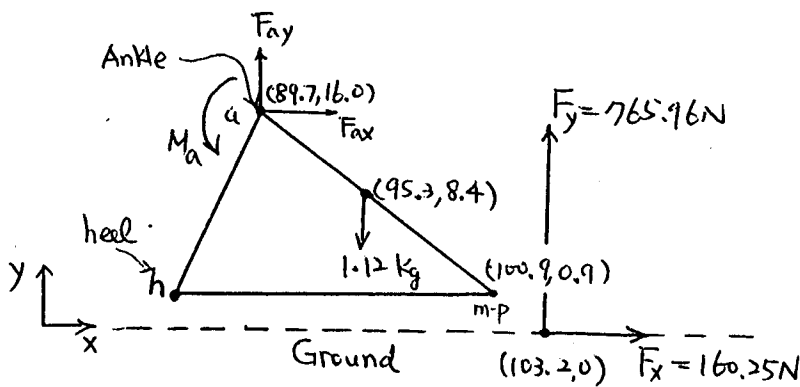

Fig 2.
- (20 %) For a subject a late stance (Fig. 2) during push-off of level walking the following accelerations were recorded: $a_x = 3.25 \text{ m/s}^2$, $a_y = 1.78 \text{ m/s}^2$, and $\alpha = -45.35 \text{ rad/s}^2$. The mass of the foot is 1.12 Kg and the moment of inertia is 0.01 Kg.m^2 . The ground reaction force data from force plate are $F_x = 160.25 \text{ N}$, $F_y = 765.96 \text{ N}$. Calculate the muscle moments (M_a) and reaction forces (F_{ax}, F_{ay}) at the ankle joint during dynamic stance.